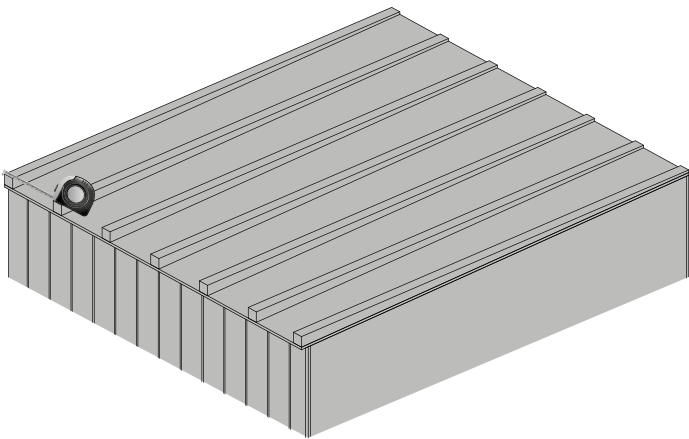

Figure 12
- 17) Layout the sloped wooden poles on top of the roof the side of the sauna you want the water to drain to. Use a tape measure to ensure an even layout of the poles (see figure 12).